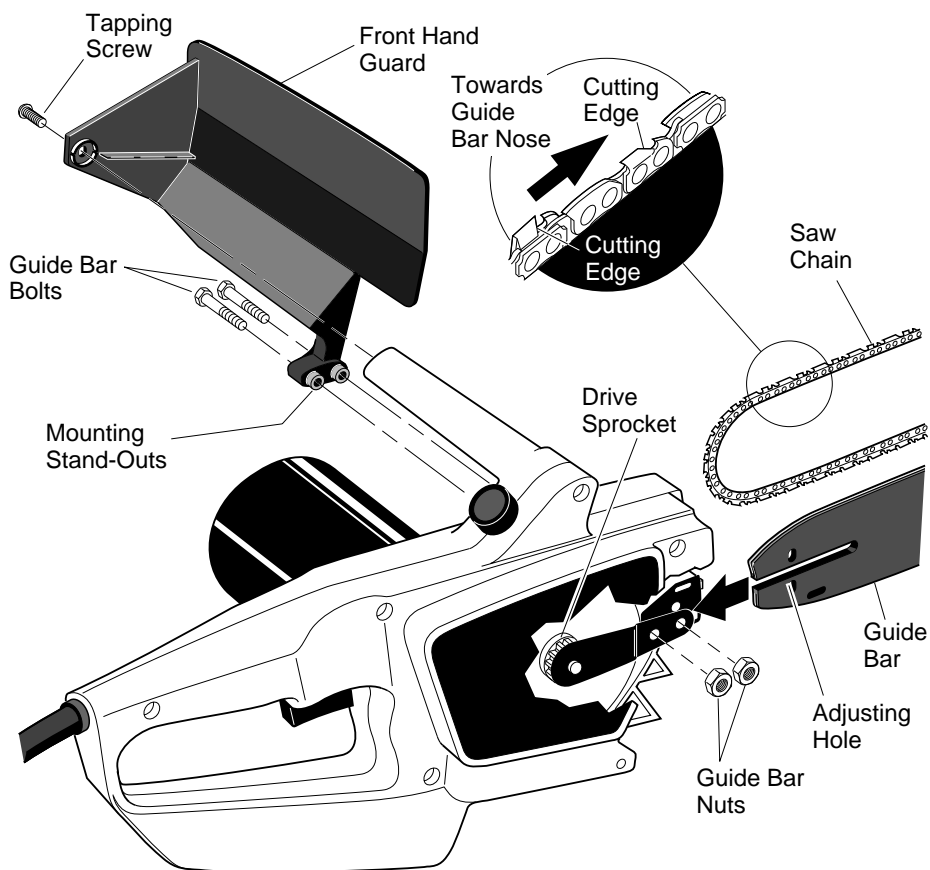

Figure 3 - Assembling Guide Bar, Chain, and Hand Guard
2. Install front hand guard onto saw body. Do this by pressing two mounting stand-outs on hand guard into hex-shaped holes in saw body (see Figure 3).
8. Place chain around drive sprocket, then along top groove of guide bar and around guide bar nose. *Note:* Make sure cutting edges of chain are facing the right direction. Position chain so cutting edges on top of guide bar face guide bar nose (see Figure 3).
1. Before adjusting chain, make sure guide bar nuts are only finger tight (see Figure 3, page 6). Also make sure adjusting block is in oval adjusting hole on guide bar (see Figure 3 and 4, page 6).